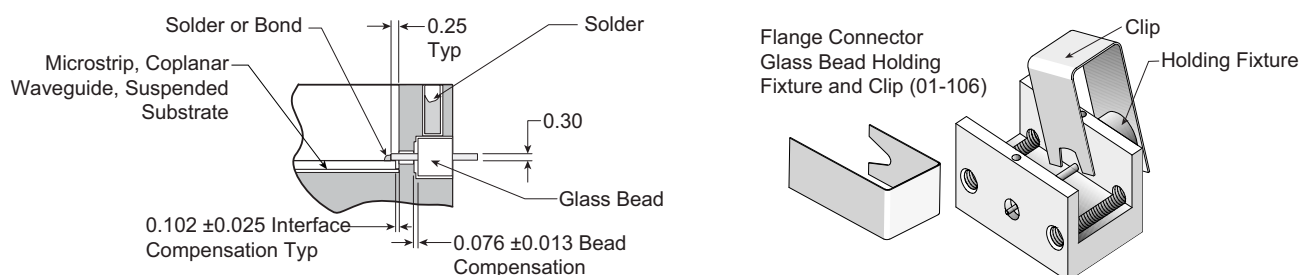

Figure 9-3. K104M-R or EK104M-R Glass Bead Assembly
1. Install the microstrip into the housing (see Figure 9-3 for dimensional tolerances around the glass bead).
3. Flux the glass bead and insert it, long-end first, into the 01-106 Glass Bead Holding Fixture (Figure 9-3).
5. Secure the holding fixture in place by using the spring clip furnished with the fixture (Figure 9-3). Position the spring clip so as not to obstruct the solder access hole in the housing. Ensure that the glass bead is centered and that it is making good contact with the microstrip.